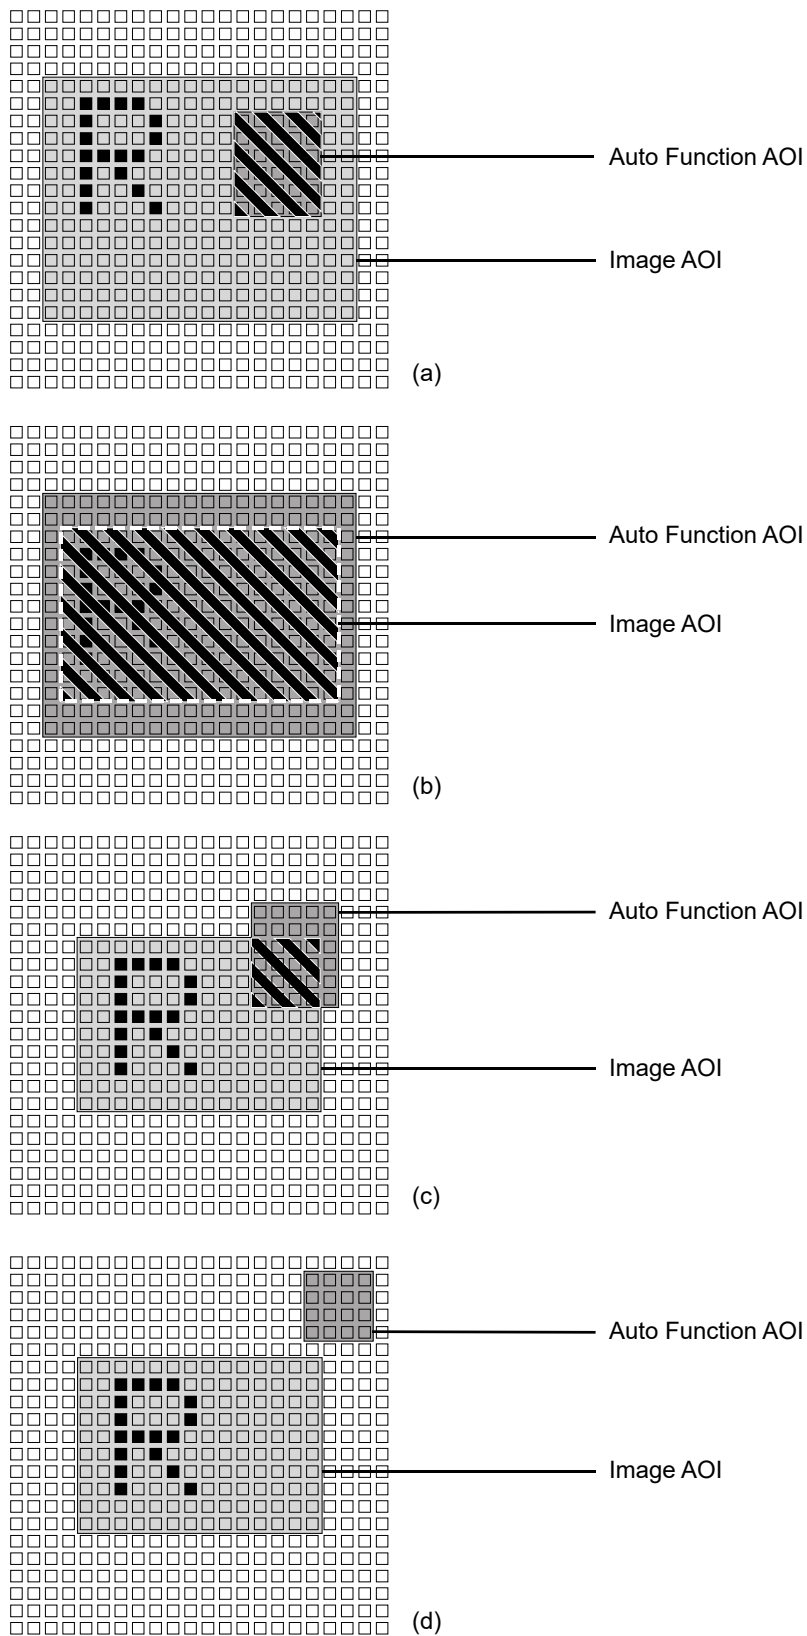

Fig. 50: Various Degrees of Overlap Between the Auto Function AOI and the Image AOI
Different degrees of overlap are illustrated in Figure 50. The hatched areas in the figure indicate areas of overlap.
- If the Auto Function AOI is completely included in the Image AOI (see (a) in Figure 50), all pixel data from the Auto Function AOI will be used to control the image property.
- If the Image AOI is completely included in the Auto Function AOI (see (b) in Figure 50), only the pixel data from the Image AOI will be used to control the image property.
- If the Image AOI only partially overlaps the Auto Function AOI (see (c) in Figure 50), only the pixel data from the area of partial overlap will be used to control the image property.
- If the Auto Function AOI does not overlap the Image AOI (see (d) in Figure 50), the Auto Function will **not** control the image property. For details, see the sections below, describing the individual auto functions.